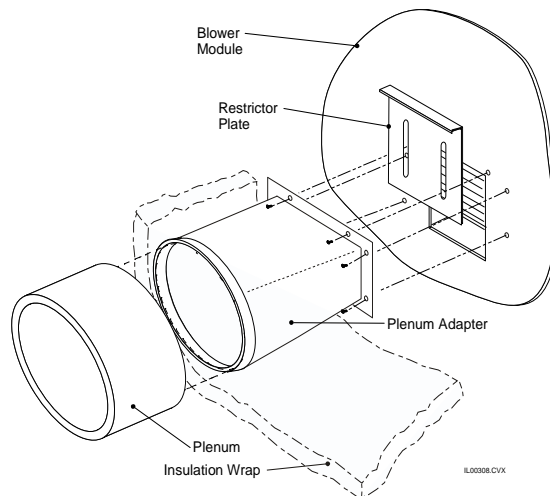

Figure 17. Supply Plenum Adapter Installation
To attach the plenum adapter, first install the restrictor plate, if required. Then install the adapter with eight (8) sheet metal screws as shown in Fig. 17. Sheet metal screws for installing both are provided with the blower.